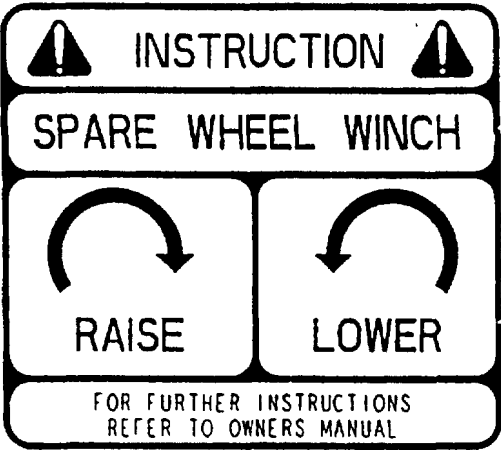

Fig 1 Instruction label
9.2 Peel the backing from the label Fig 1 and apply the label to the chassis member.